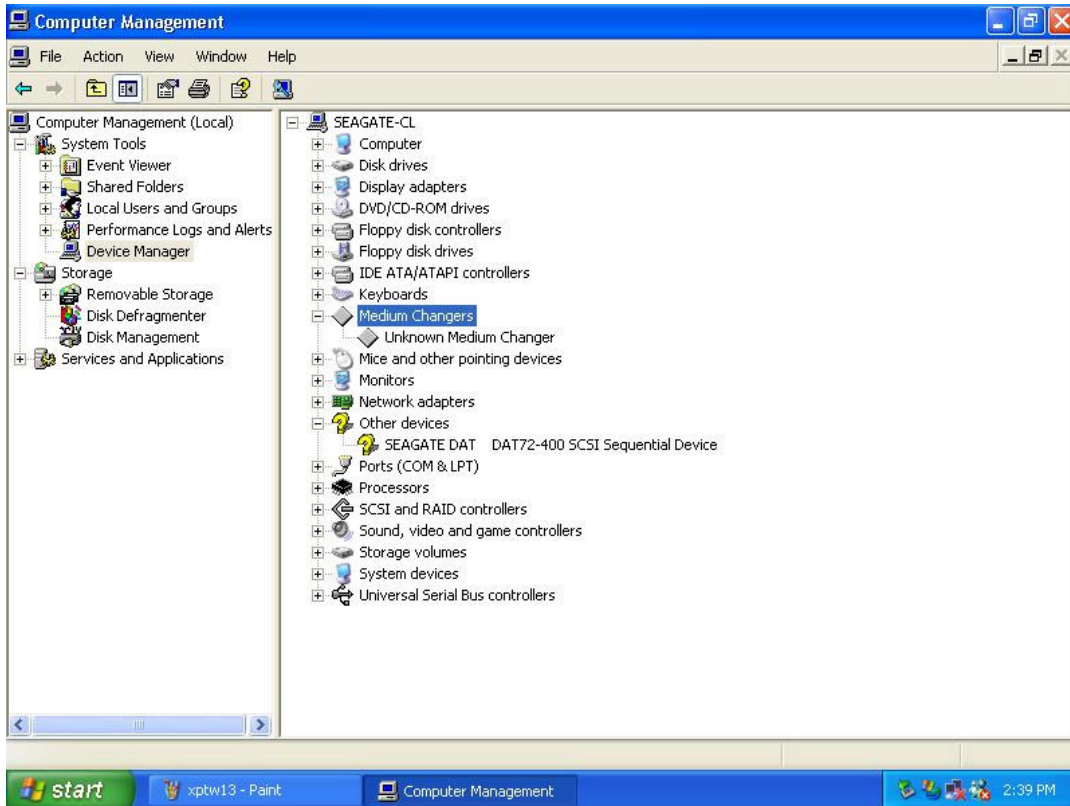

Figure 15. Unknown Medium Changer in the Computer Management Window
1. Go into Computer Management and open Device Manager. You will see the device is unknown (see Figure 15 on page 32).